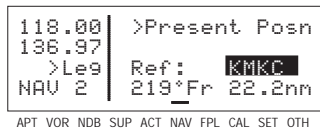

Figure 4-158
4. If this is the waypoint you intended, press ENT again. The display will return to the NAV 2 page (figure 4-158).